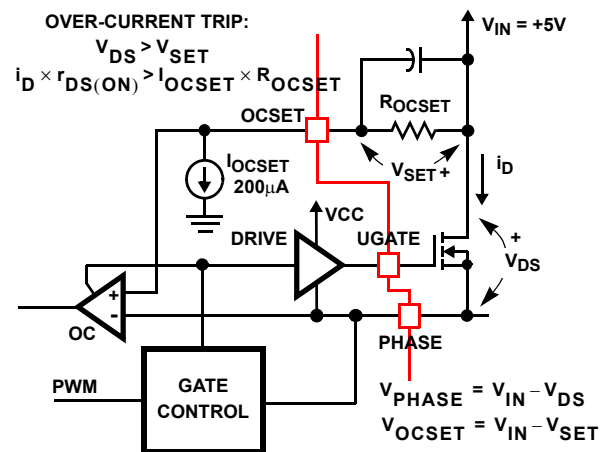

FIGURE 9. OVER-CURRENT DETECTION
An external resistor ( $R_{OCSET}$ ) programs the over-current trip level for the PWM converter. As shown in Figure 9, the internal 200 $\mu$ A current sink ( $I_{OCSET}$ ) develops a voltage across  $R_{OCSET}$  ( $V_{SET}$ ) that is referenced to  $V_{IN}$ . The DRIVE signal enables the over-current comparator (OC). When the voltage across the upper MOSFET ( $V_{DS(ON)}$ ) exceeds  $V_{SET}$ , the over-current comparator trips to set the over-current latch. Both  $V_{SET}$  and  $V_{DS}$  are referenced to  $V_{IN}$  and a small capacitor